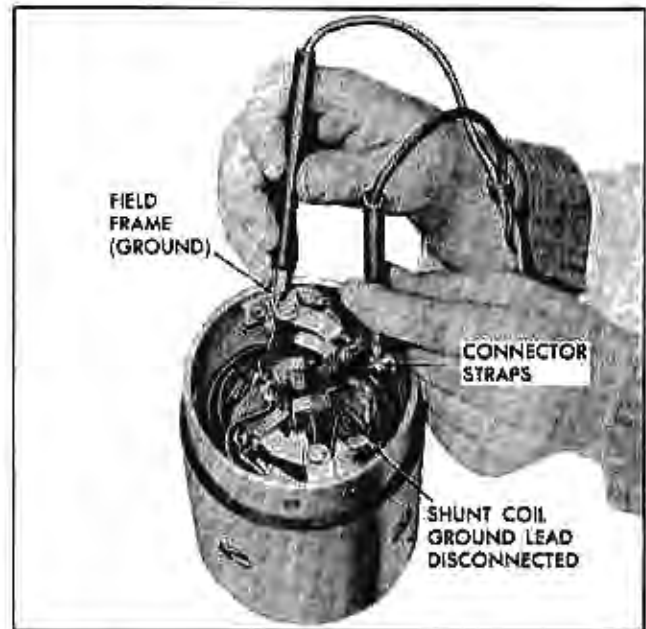

Fig. 11-47 Testing Field Coils for Ground
d. Using a 110-volt test lamp, place one lead on the connector strap and the other on the field frame (Fig. 11-47). Disconnect the shunt coil or coils ground before this check is made. If the lamp lights, the field coils are grounded and the defective coils will require repair or replacement.